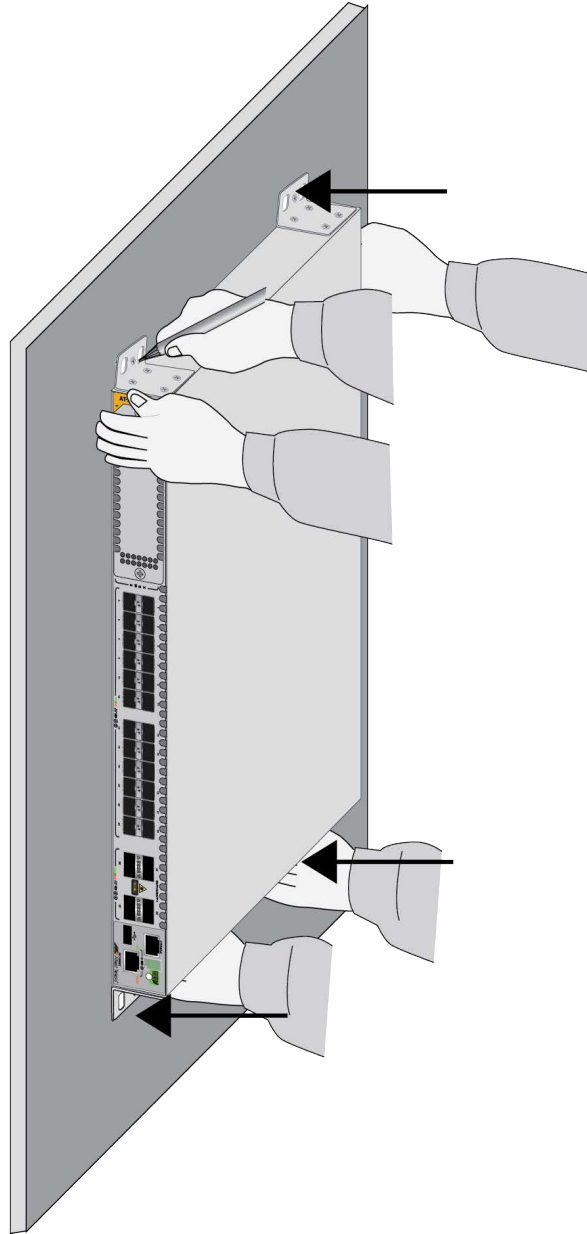

Figure 97. Marking the Locations of the Bracket Holes on a Concrete Wall
3. Have two people hold the switch on the concrete wall at the selected location for the device while you use a pencil or pen to mark the wall with the locations of the four screw holes in the four brackets. Refer to Figure 97 on page 170.